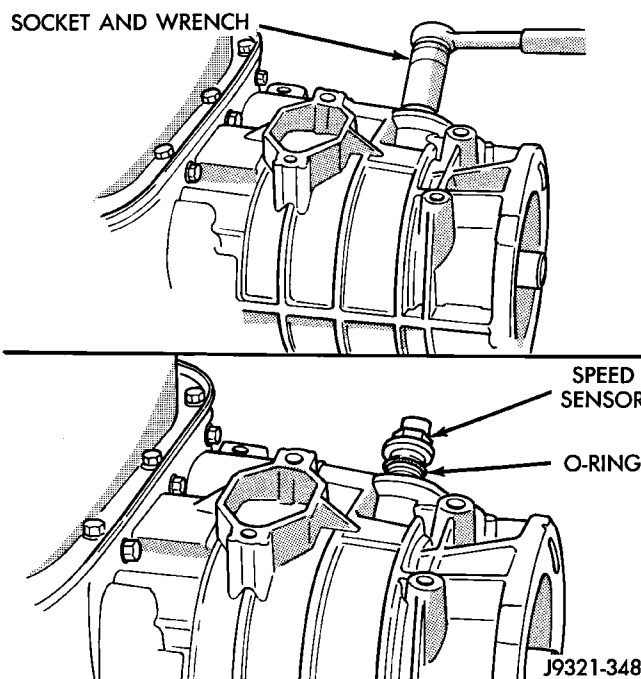

Fig. 193 Transmission Speed Sensor Removal/Installation
(1) Remove transmission speed sensor and O-ring seal from overdrive case (Fig. 193).